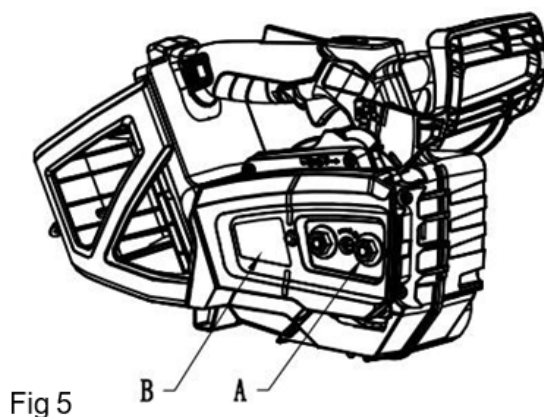

Fig 5
1. Loosen the two sprocket cover nuts (A) (Fig. 5).
2. Remove the pinion cover (B) (Fig. 5).